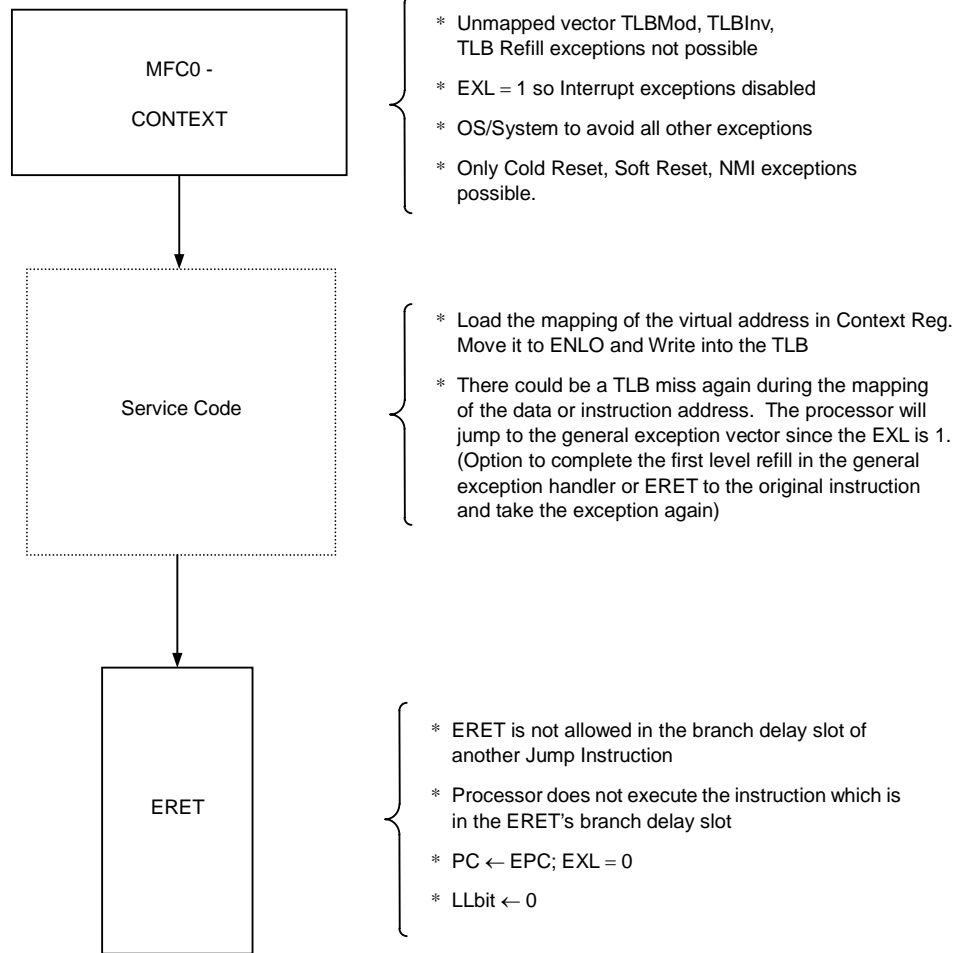

Figure 8.20.4 TLB/XTLB Miss Exception Servicing Guidelines (SW)
- Figure 8.20.4 shows TLB/XTLB exception servicing guidelines (SW)